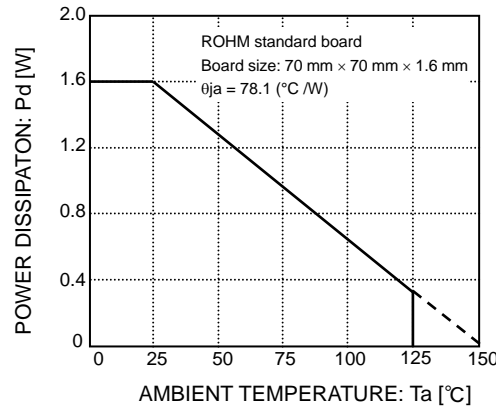

Fig.17
Refer to the dissipation reduction illustrated in Fig.17 when using the IC in an environment where $T_a \geq 25^{\circ}\text{C}$. The characteristics of the IC are greatly influenced by the operating temperature. If the temperature exceeds the maximum junction temperature $T_{j\text{max}}$, the elements of the IC may be damaged. It is necessary to give sufficient consideration to the heat of the IC in view of two points, i.e., the protection of the IC from instantaneous damage and the maintenance of the reliability of the IC in long-time operation.
In order to protect the IC from thermal destruction, the operating temperature of the IC must not exceed the maximum junction temperature $T_{j\text{max}}$. Fig.17 illustrates the power dissipation/heat mitigation characteristics for the HRP-7 package. Always operate the IC within the power dissipation (P_d). The following method is used to calculate the power consumption P_c (W).